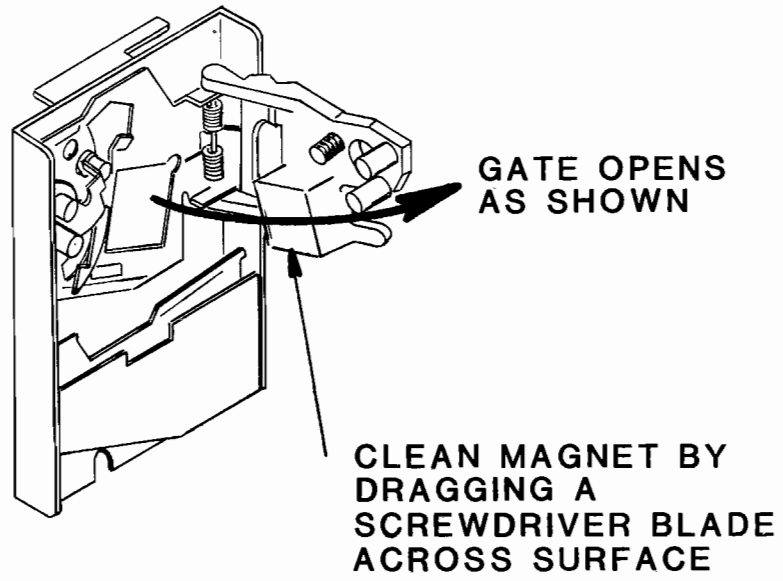

FIG.36
- i. Use ONLY powdered graphite and put in ONLY on the moving parts of the coin acceptor. These parts are called out in Figure 36.